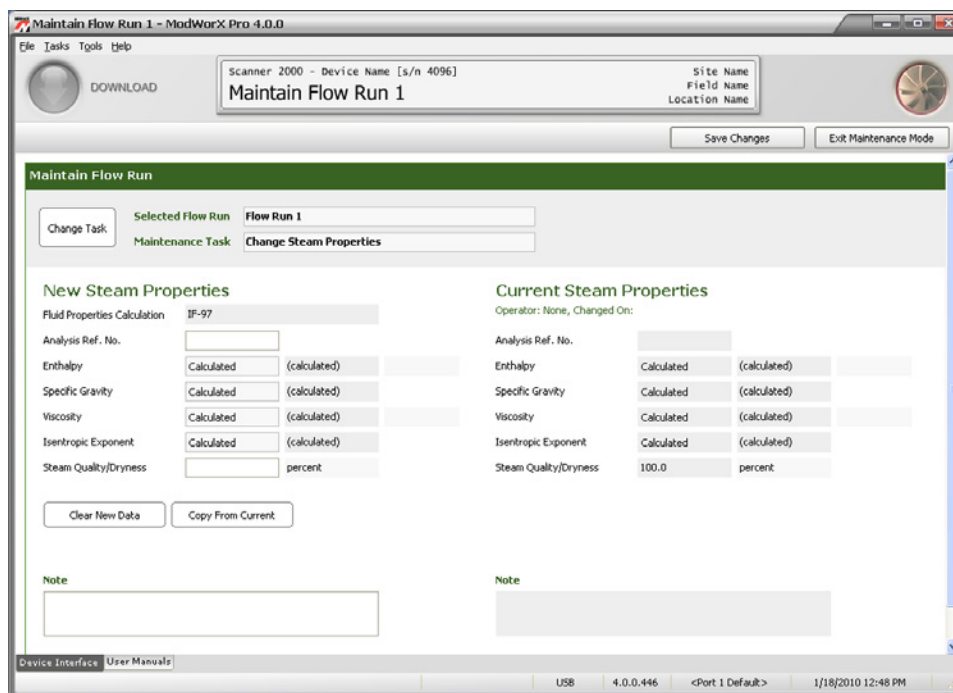

Figure 10.13
- b. Click **OK** to save your selections and return to the Maintain Flow Run screen (Figure 10.13).